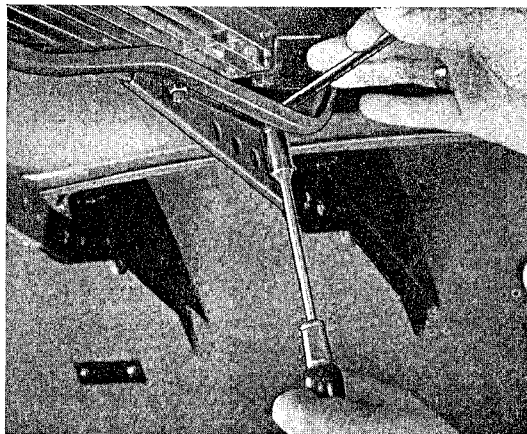

Fig. 14
2. Loosen two bolts on each hinge (Fig. 14).